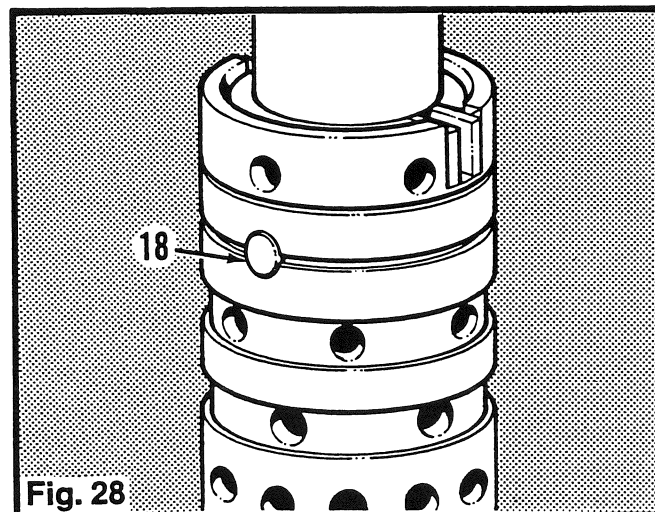

Fig. 28
6. Install the drive pin (18). (Fig. 28)